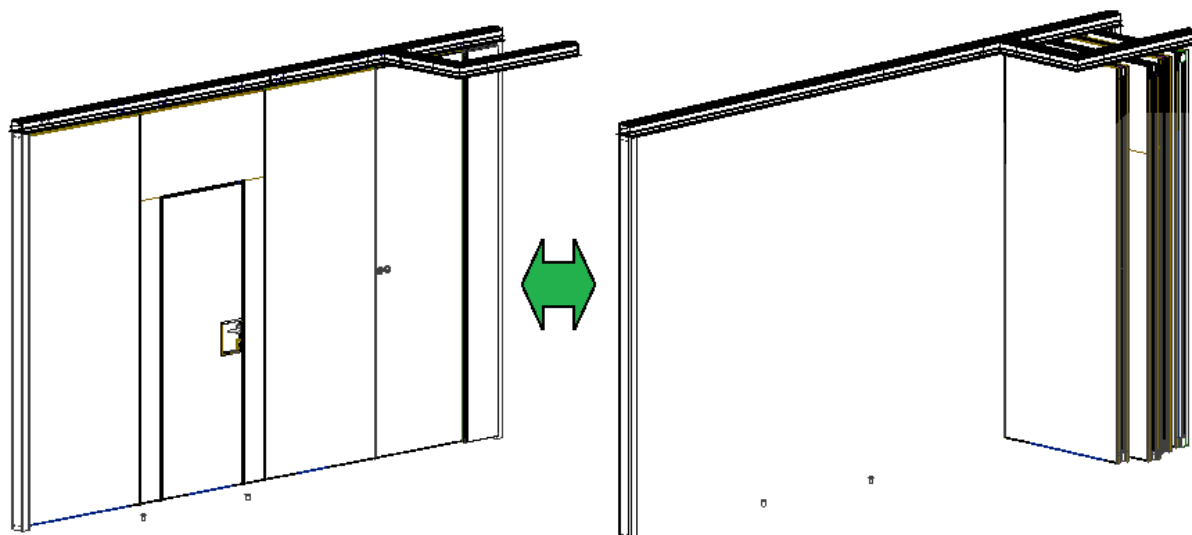

Fig.4. Layout of panels in a **2-point suspension** wall with a parking space
- **2-point** - the panels are parked **in the parking rack** (fig.4)
- **from the parking rack** - for a 2-point suspension wall (Fig.4)
- **into the parking rack** - for a 2-point suspension wall (Fig.4)
- **from the parking rack** - for a wall with a 2-point suspension (Fig.4)